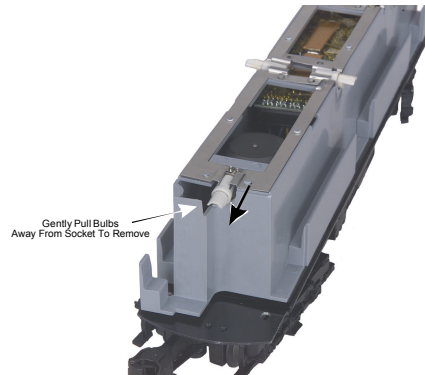

Figure 8
2. Pull out the bulb shown in Figure 8 to replace the Number/Destination Board bulb.